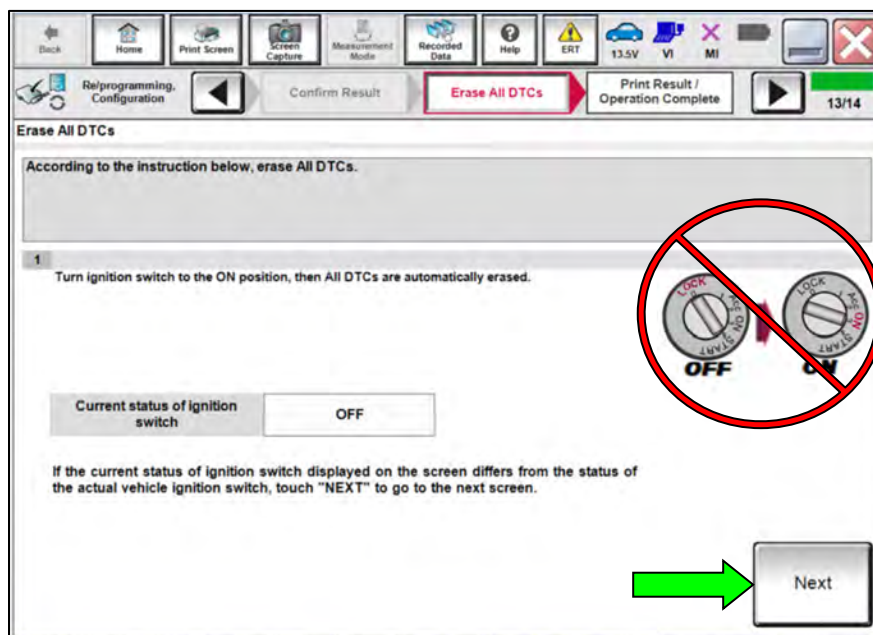

Figure 31
37. Once the screen in Figure 31 displays, select **Next** only. **DO NOT** change ignition switch position.